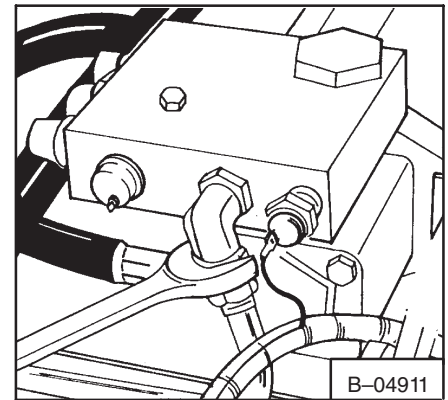

Fig. 3-32 Removing Hoses
3. Remove the hydraulic hoses and tubelines from the port block (Fig. 3-32).